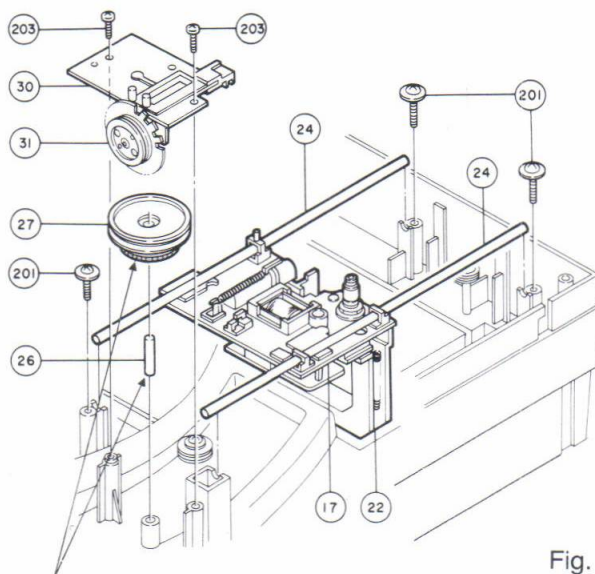

Fig. 16
8. Stick the Sheet (23) on the Sensor PWB Ass'y (39).
9. Connect the long Tonearm lead wires (red and gray) and the Sensor PWB Ass'y lead wires to the Control PWB Ass'y (37).
## (B) Installation of Bracket Ass'y (17) (Figure 16)
1. Insert the Tonearm (22) into the cut out portion of the Cabinet (1), then place the two Rails (24) through the Bracket Ass'y (17) and secure them with three Screws (201).
2. Insert the Shaft (26) into the Cabinet (1) and install the Worm Wheel Gear (27).